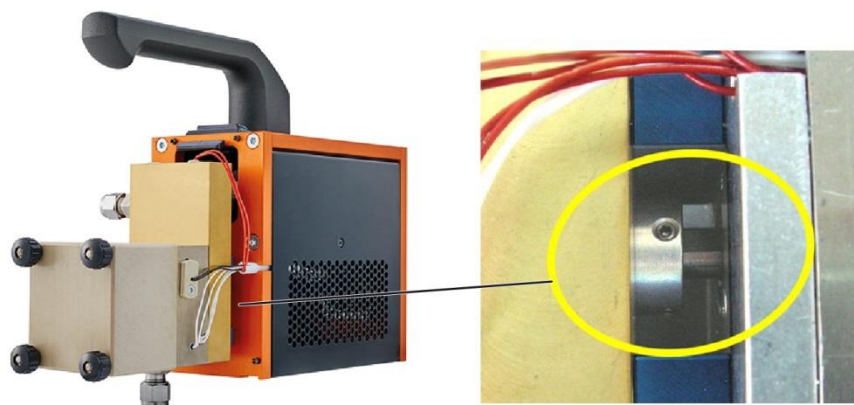

Fig. 5.8: coupling element as rotation indicator
- If the device is used stand-alone, connect your sensor(s) to the diluted gas connection on the front side (28). Otherwise turn on the testo MD19-3E Dil Air supply pump of the ASET15-1 where the testo MD19-3E is integrated. Some gas must flow through the testo MD19-3E.
- Make sure the internal pump switch (37) is „OFF“ (down) and the dilution potentiometer (30) is on zero position.
- Remove the hot parts protection hood (8). The pressure compensation cap (14) has to remain installed over diluter disk (23) and block (18).
- Increase the dilution ratio on the potentiometer. The disk must start to rotate with increasing frequency. The rotational speed can be observed at the coupling element shown in Fig. 5.8 when the hot parts protection hood (8) is removed.